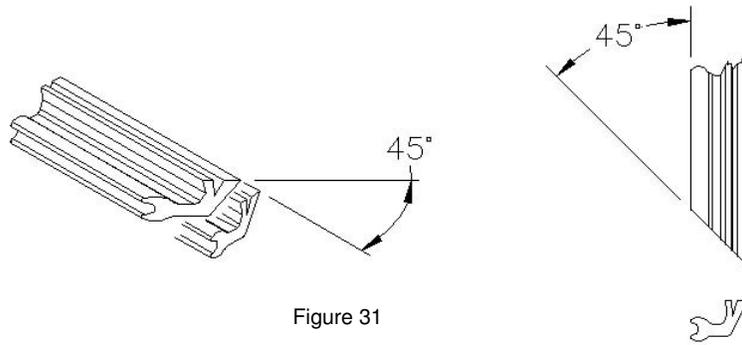

Figure 31
- c. Trim the end of the floor seal at a 45° angle at both ends (Figure 31). The angle on the seal pushes the adhesive into the seal groove. Pull the floor seal into the floor slat/plank. The open end of the “Y” must be towards the top of the slat/plank (Figure 32). Pull the polyurethane (black) seal short of the full length by the dimension “X”. The dimension “X” varies with the floor slat/plank length. Refer to Figure 33 to determine the correct “X” length. Cut the floor seal off flush with the end of the floor slat/plank (Figure 34). If using the polyethylene seal (blue) pull it flush with the end of the floor slat/plank (Figure 35).